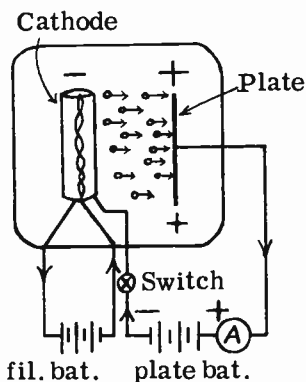

FIG. 6-6. DIODE ACTION WHEN PLATE IS POSITIVE.
**THE DIODE AS A CONDUCTOR.** The schematic diagram of Fig. 6-6 shows a diode connected to a voltage source. This voltage source is called a “B” supply. The top terminal is B+ and the bottom terminal is B-. Note that the heater is NOT connected to a voltage source. Whenever a schematic shows a heater left hanging in this manner, it is ASSUMED to have a supply voltage connected to it.